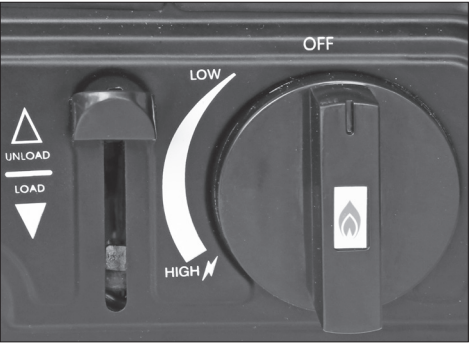

Fig. 1
- Turn the Ignition Knob to ‘OFF’ and set the Cartridge Lever to ‘UNLOAD’ (Fig. 1).